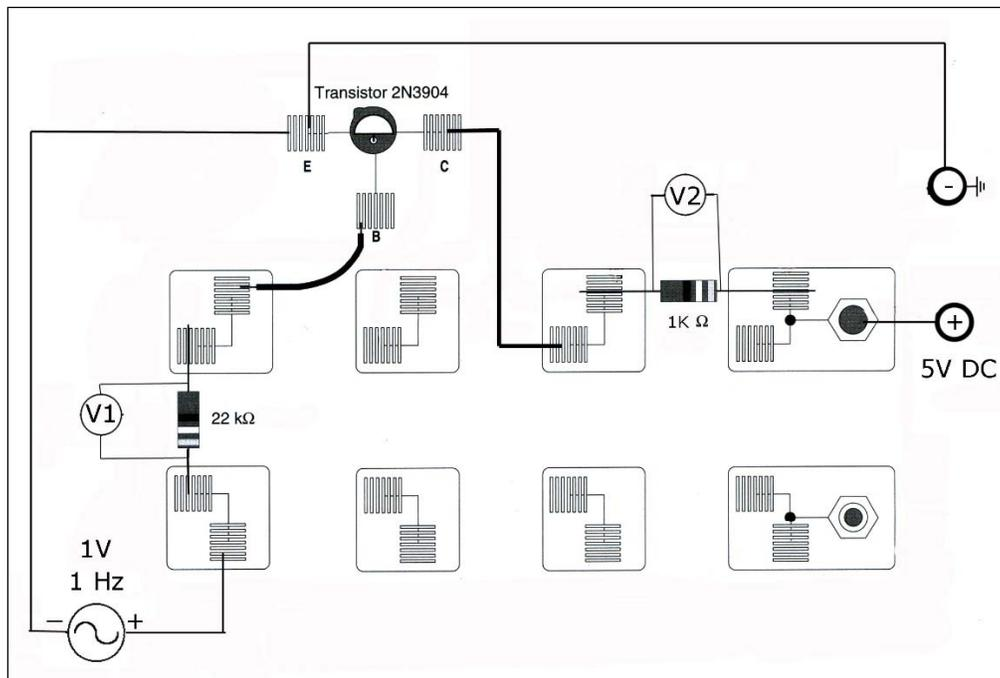

Fig. 11: circuit to build in step 13.
13. Build the circuit shown in Fig. 11. Attach the voltage sensors last. Make sure to connect a patch cord from the negative terminal (black) of the DC power supply to the ground terminal (green) of the same unit.